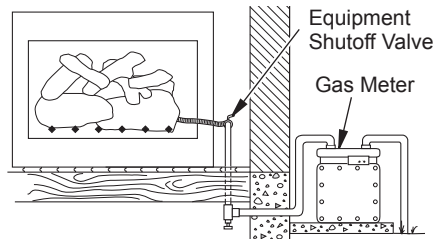

Figure 6 - Checking Gas Joints
3. Check all joints from gas meter to equipment shutoff valve (see Figure 6). Apply a noncorrosive leak detection fluid to all joints. Bubbles forming show a leak.
- Install adapter fitting onto burner inlet fitting using thread sealant on male threads of burner inlet fitting (see Figure 6). Adjust to most convenient position.